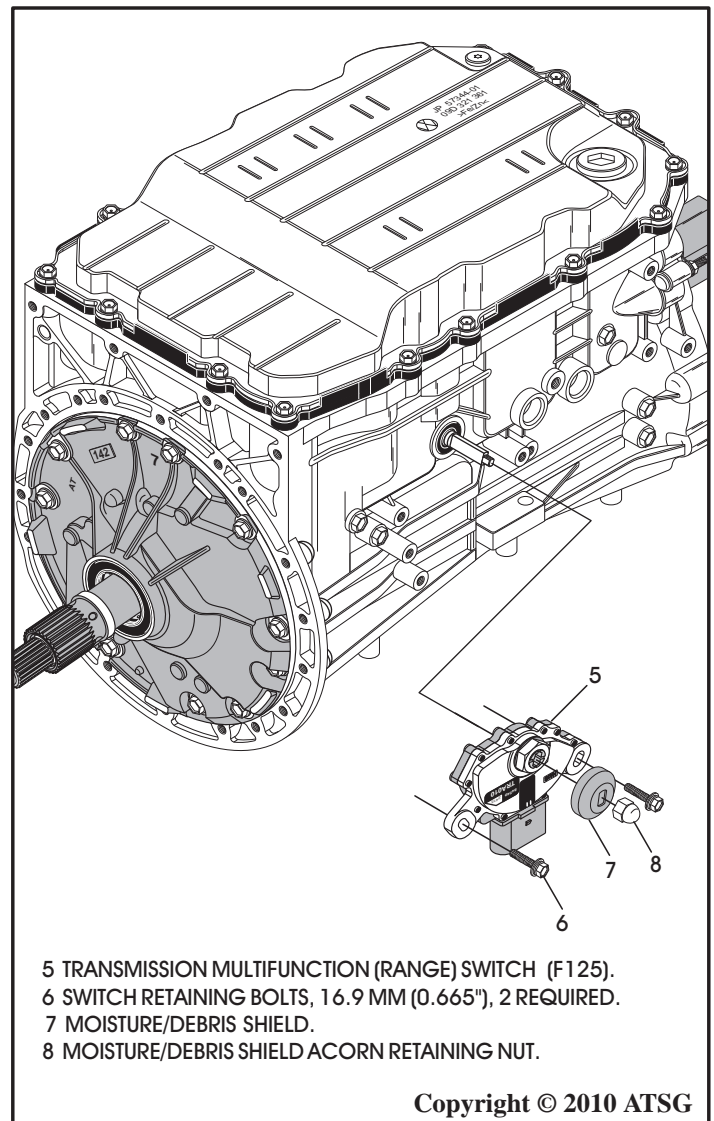

Figure 42
9. Remove the acorn nut and debris shield from the transmission range (multifunction) switch, as shown in Figure 42.
10. Remove the two range switch retaining bolts, as shown in Figure 42, and slide TRS off of manual shaft.